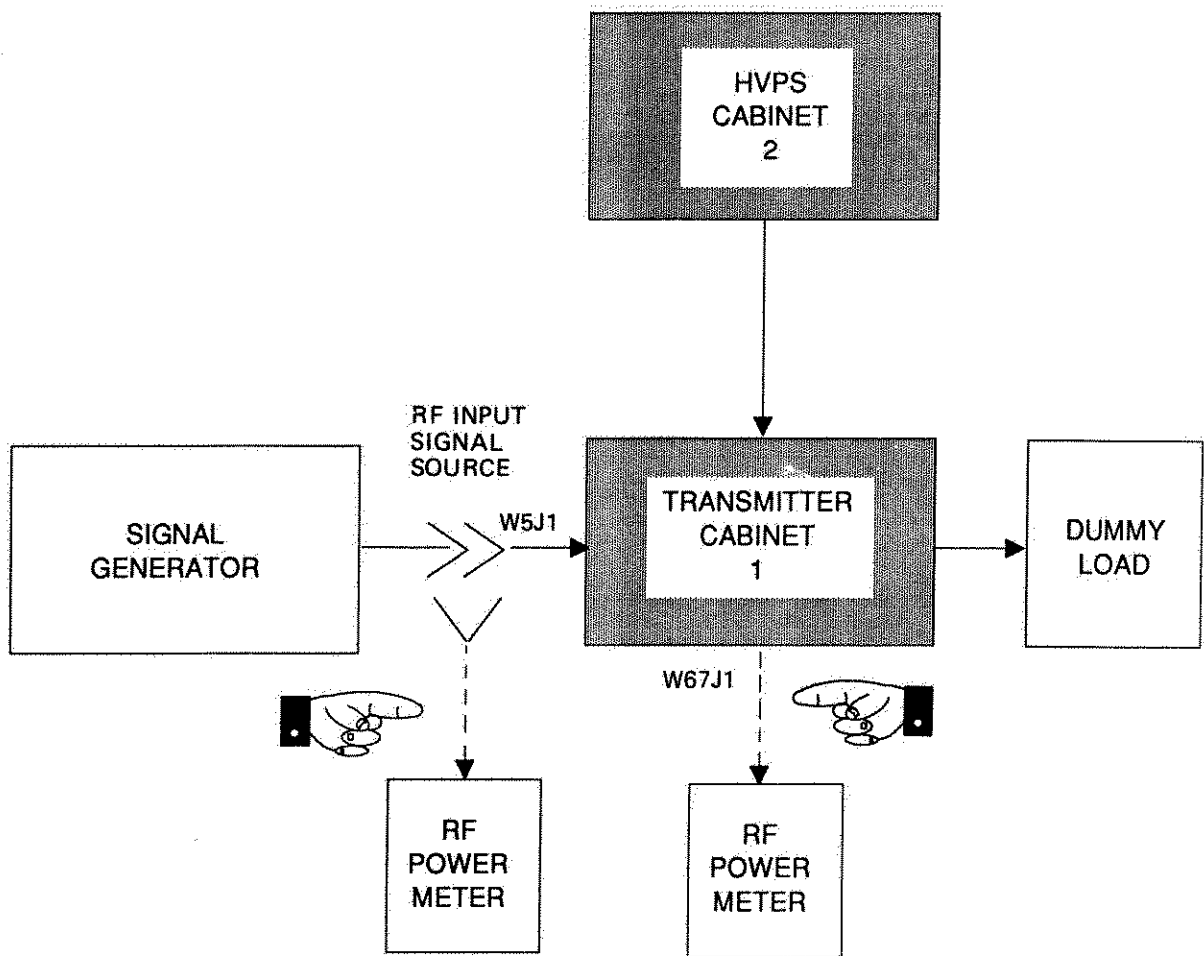

Figure 6-157. Output Power Flatness Equipment Setup
2. Set up test per Figure 6-157 and connect RF signal generator output to RF INPUT SIGNAL SOURCE jack on RF SIGNAL MONITORS panel. Set 1A25S2, RF INPUT SELECTOR, to LOCAL position. Set 1A13S2 METERS switch to ON and 1A13S1 RF POWER switch to FWD.